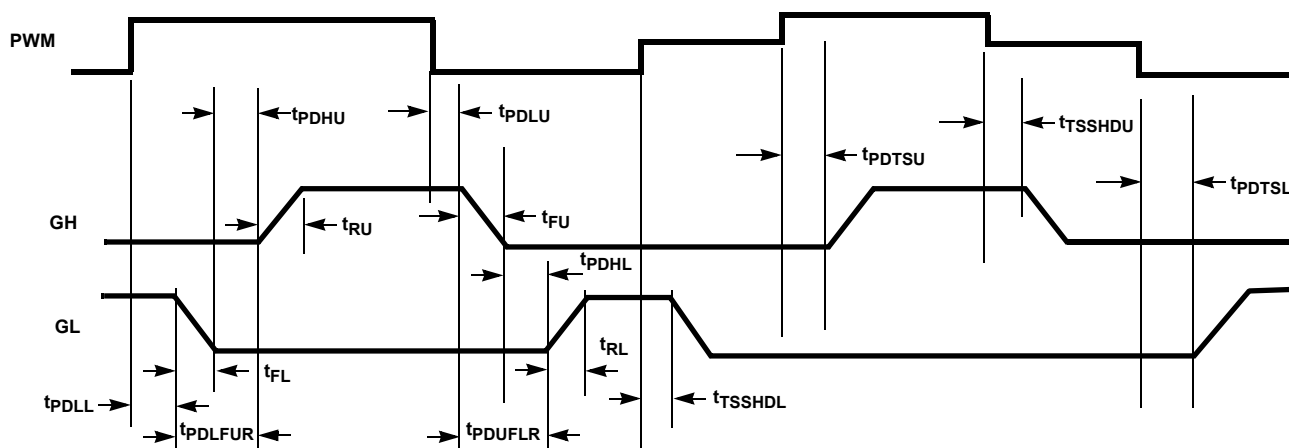

FIGURE 5. TIMING DIAGRAM (INTERNAL SIGNALS)
3.3V PWM INPUT FOR ISL99227 (See "TIMING DIAGRAM" Figure 5 on page 9)
5V PWM INPUT FOR ISL99227B (See "TIMING DIAGRAM" on Figure 5 on page 9)